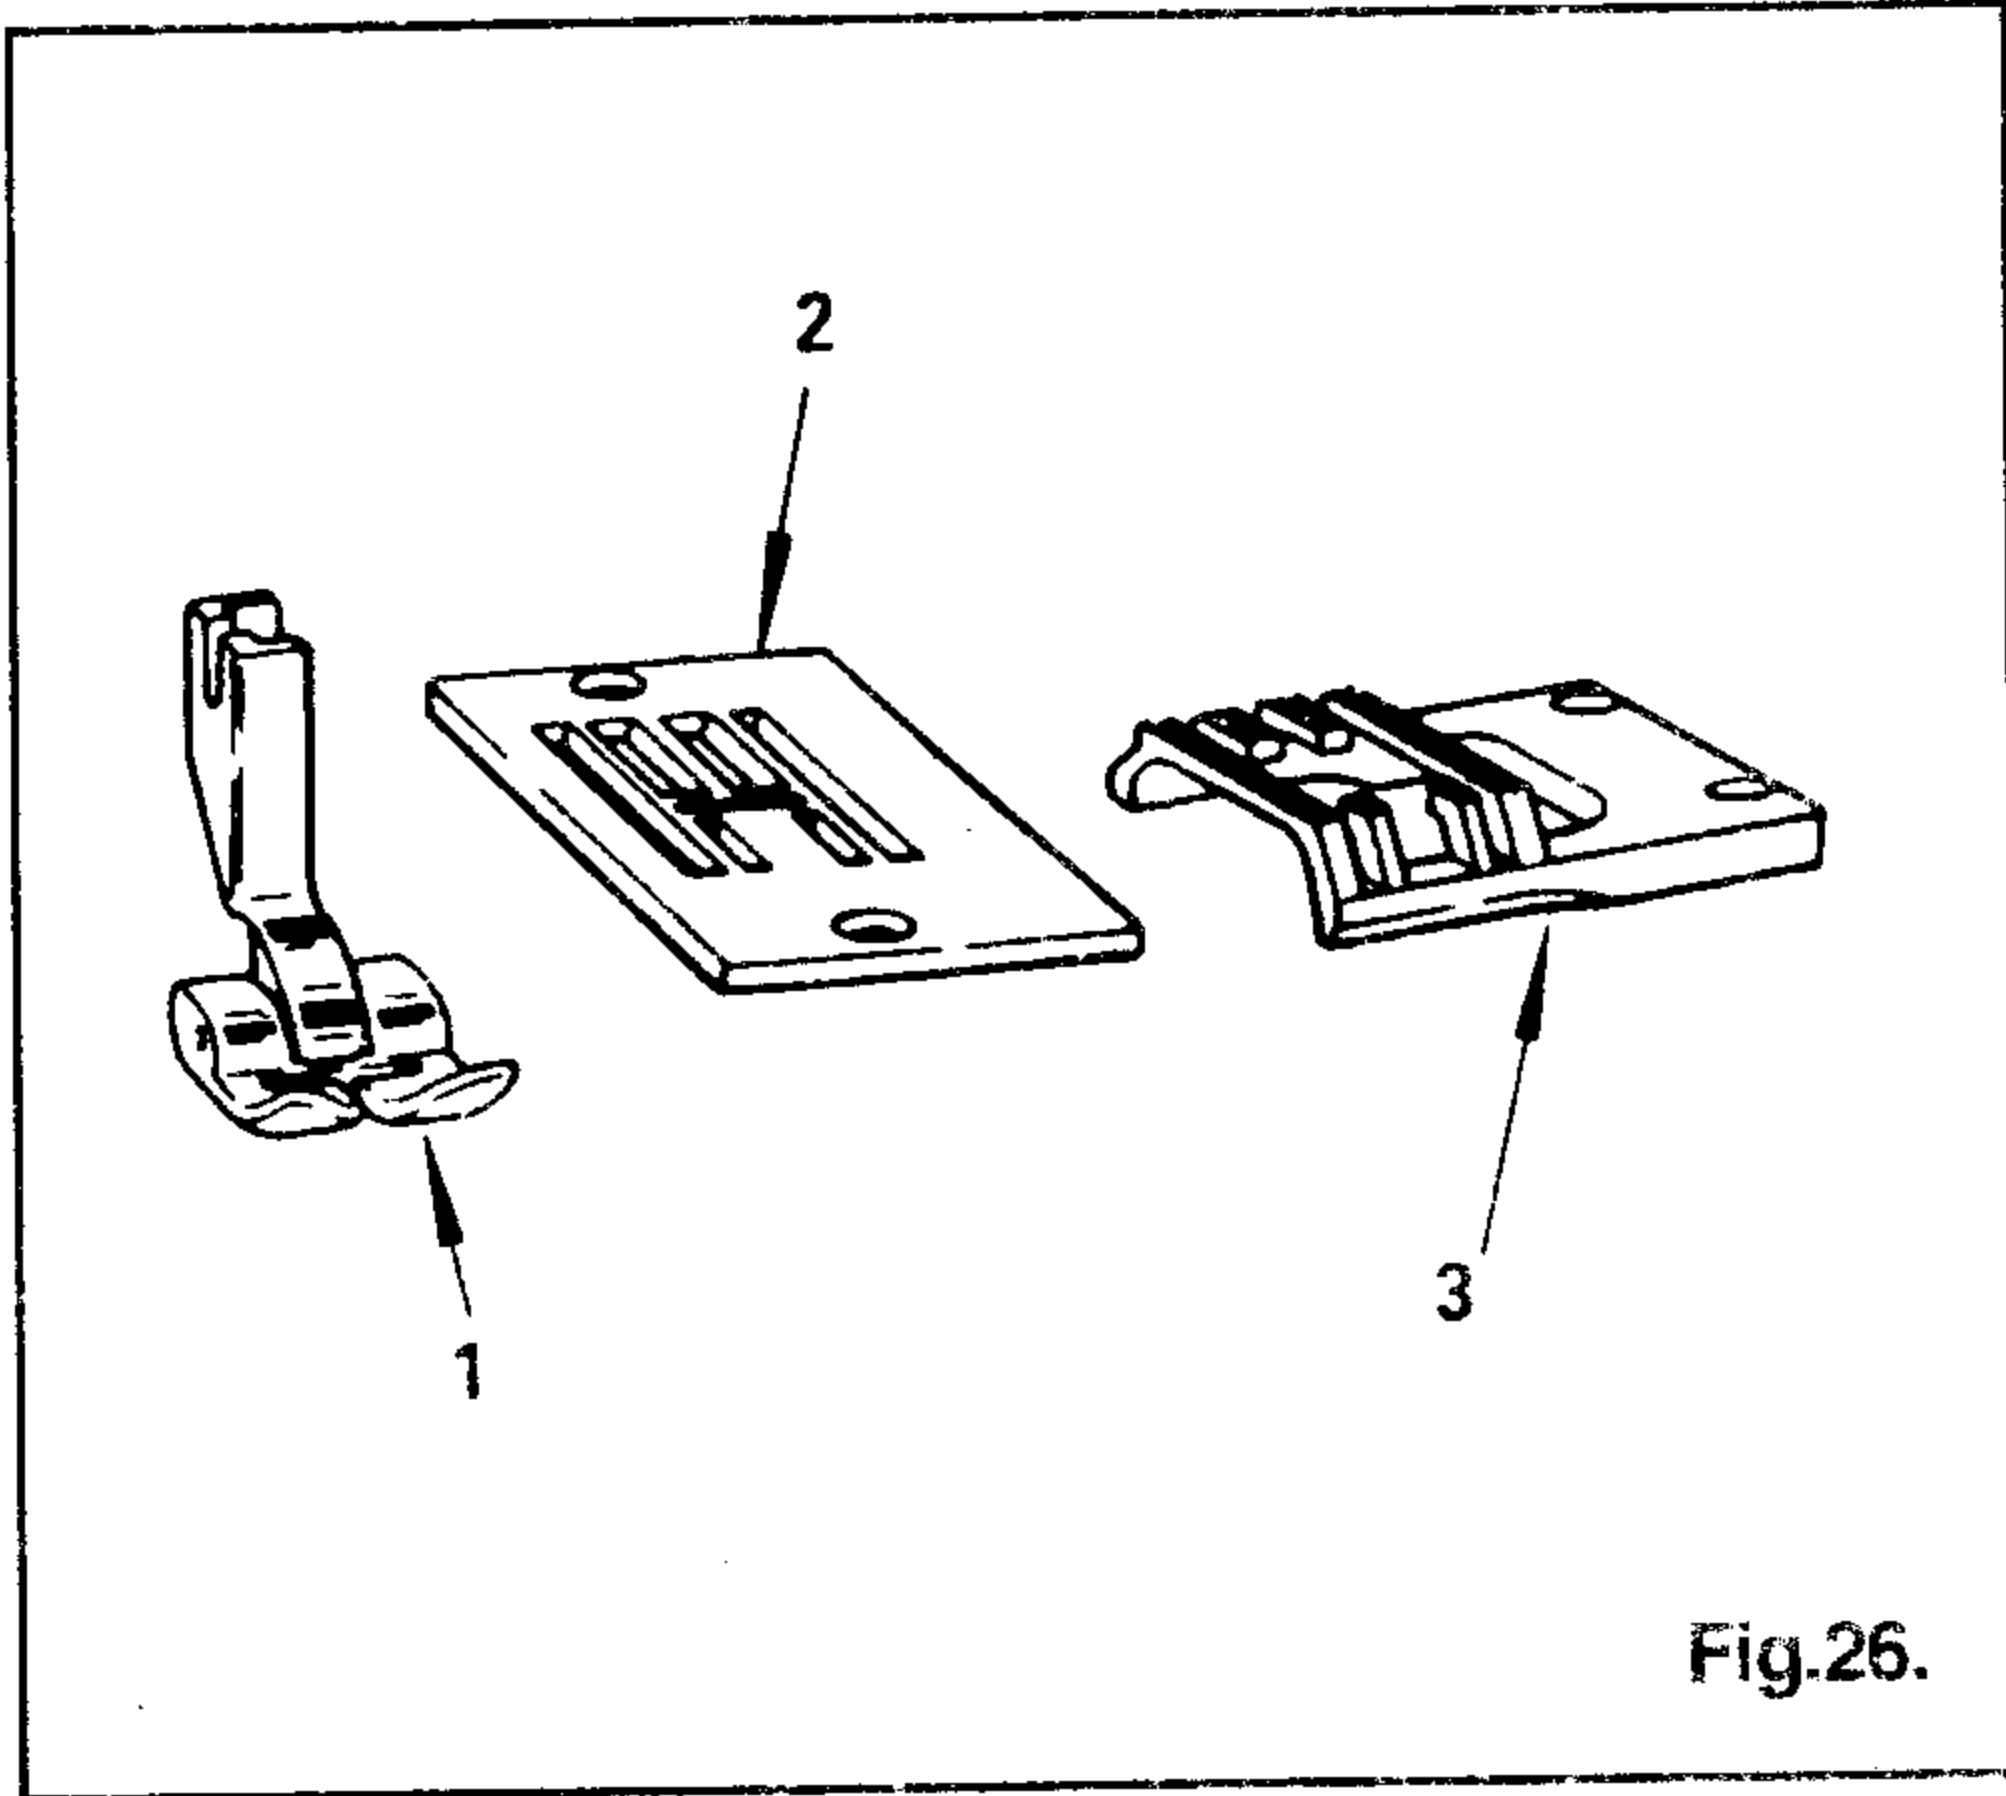

Fig.26.
General Purpose Presser Foot (1), Throat Plate (2) and Feed Dog (3) as shown in Fig.26. are used for straight and zigzag stitching.